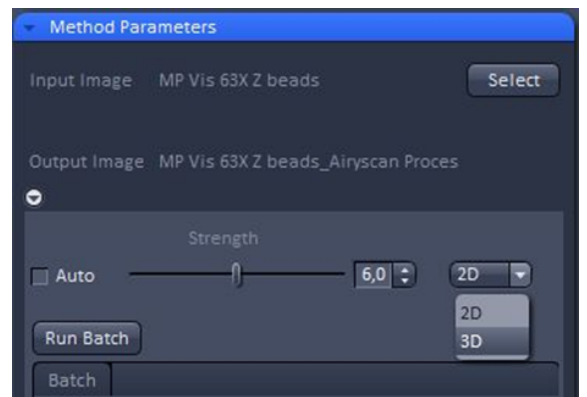

Fig. 255 Airyscan Processing tool: Method Parameters, 2D, 3D
- ☞ Note that with 3D data you have the choice of a 2D or a 3D processing by selecting the method from the dropdown list (Fig. 255). A 3D processing will take longer but will result in a higher resolution increase since also the axial Airy data will be used for the processing.